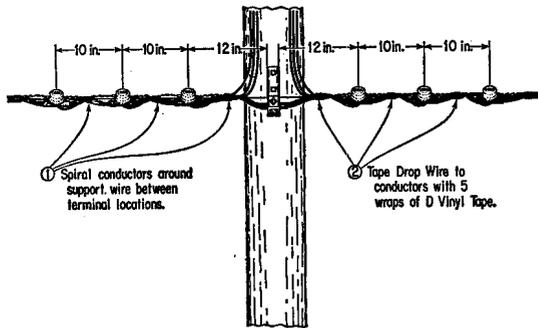

Figure 8
4.02 A maximum of three wire terminals can be mounted on each side of the wire bracket. The method of installation for each is similar to that in paragraph 4.01. A complete installation is shown in Figure 8, although individual terminals are added only as needed. The order of installation would depend on the direction of feed for the drop wires.